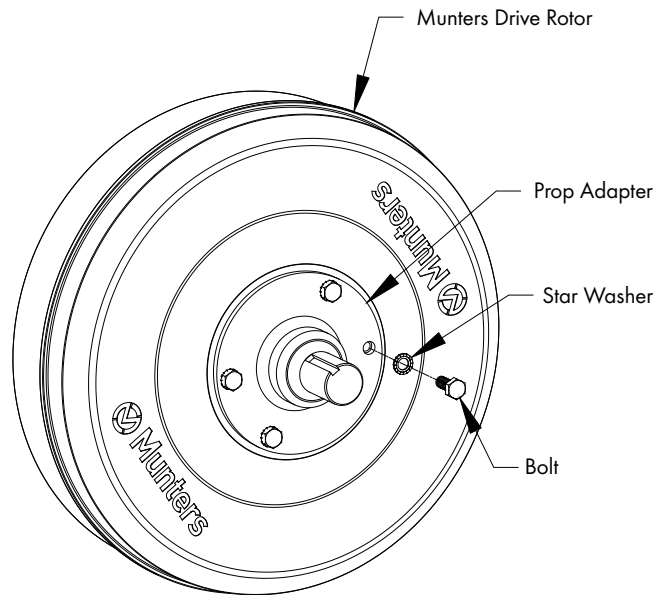

Figure 18
Remove the (4) Bolts and Star Washers holding the Prop Adapter to the Rotor. Save the Prop Adapter for reuse, but discard the existing bolts and washers. See Figure 18.